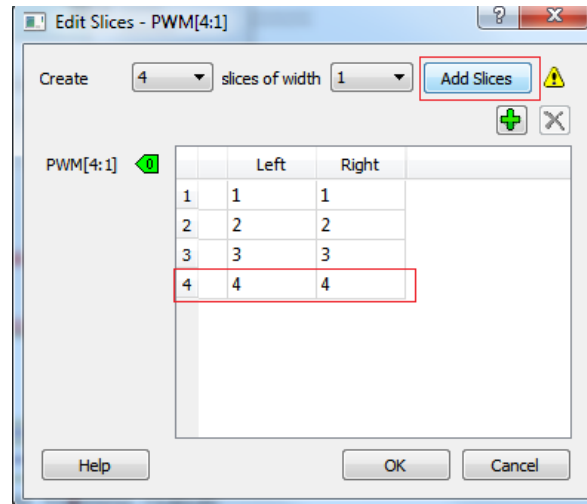

**Figure 36 • CorePWM Block After Adding PWM Channel**
3. The CorePWM (MPM\_PWM\_Trimming\_Outputs) block looks like Figure 36. Right-click the PWM[4:1] as shown in Figure 37 and select Edit Slice.